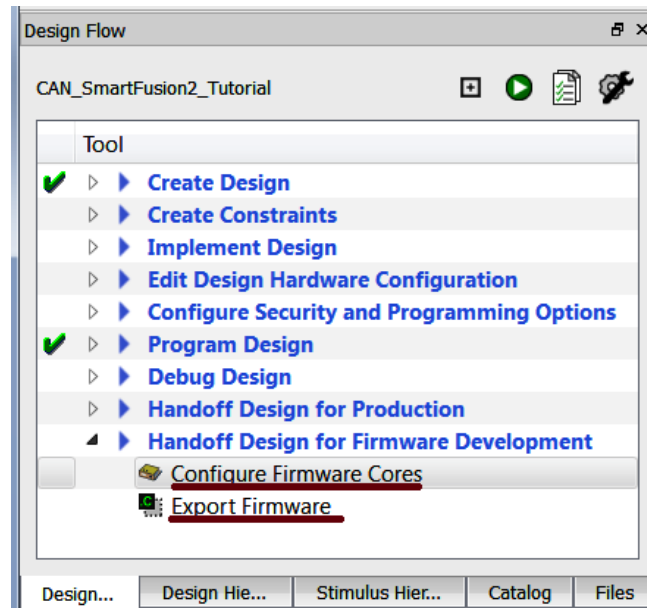

Figure 18 • Configure and Export Firmware
1. Double-click **Configure Firmware Cores** under **Handoff Design for Firmware Development** as shown in Figure 18. Inspect the design's firmware core versions to confirm the latest versions of the core drivers are selected.
2. Double-click **Export Firmware** under **Handoff Design for Firmware Development** to export the Firmware files used in the project as shown in Figure 18